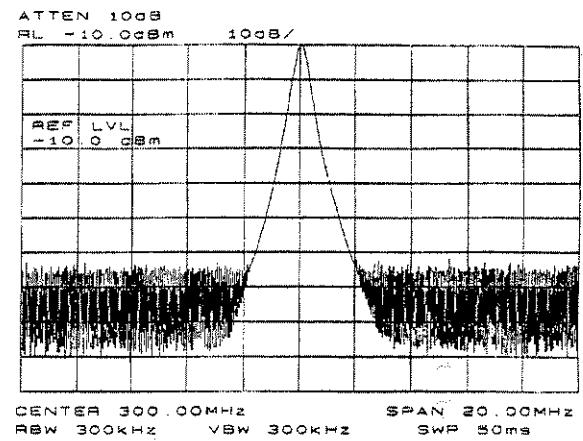

Figure 1-5. Signal Peak Set to Reference Level
- Set the amplitude. Generally, placing the signal peak at the reference level provides the best measurement accuracy. To adjust the signal peak to the reference level (Figure 1-5), press [AMPLITUDE], then key in 10 ~~dBm~~, or use either the step keys or the knob. Using the knob is the easiest way of fine-tuning the signal peak to the reference level, which is at the top of the screen.